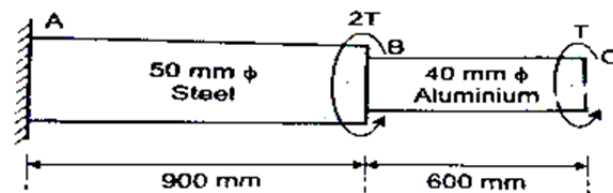

Figure 2
- (b) A compound shaft consisting of a steel segment and an aluminium segment is acted upon by two torques as shown in Figure 2. Determine the maximum permissible value of T subjected to the following conditions.